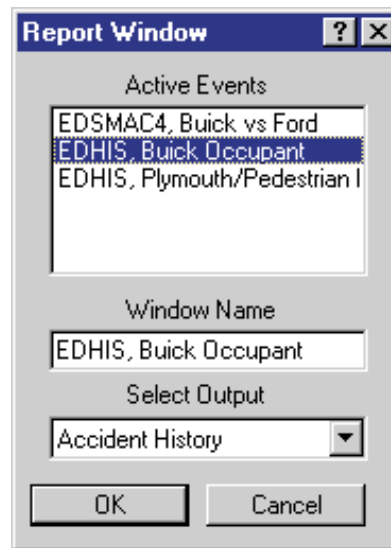

Figure 5-18 Report Window Information dialog, showing the events (one EDSMAC4 and two EDHIS) in the current case.
- Click *Add New Object*. The Report Window Information dialog is displayed, as shown in Figure 5-18, and includes a list of the active events (*EDSMAC4, Buick vs Ford*, *EDHIS, Buick Occupant* and *EDHIS, Ford/Pedestrian Impact* are the events in this tutorial). The Report Window Information dialog also includes the user-editable *Report Window Name* text field and *Selected Output* option list.